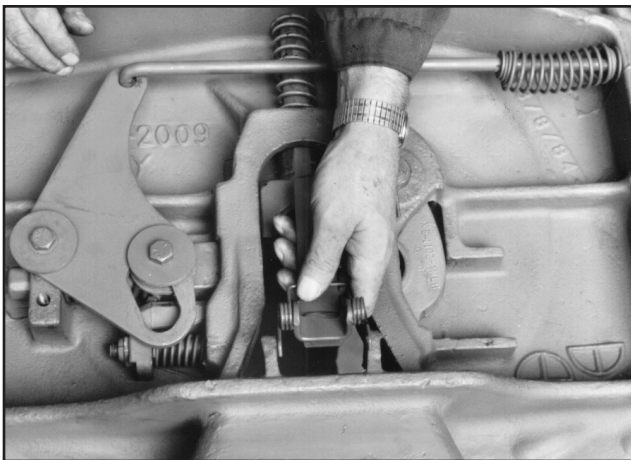

Figure 1
3. Assemble the lock guard, XA-1621 and torsion spring XB-1044 (see *Figure 1*).